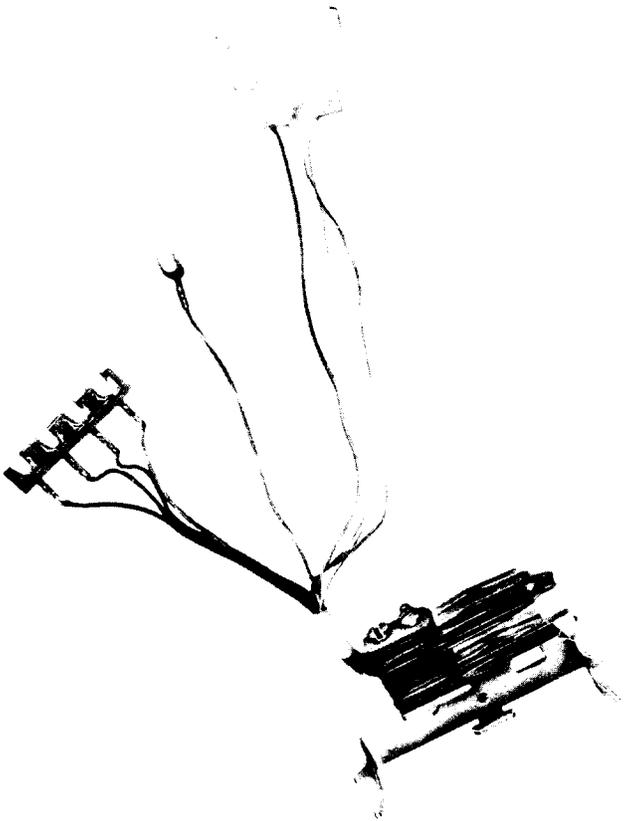

Fig. 7—812551182 (P-25E118) Exclusion Switch
2.10 The exclusion switch assembly terminates in individual and wafer strip spade-tipped conductors (Fig. 7). This allows adaption of the exclusion feature to any one of the pickup buttons.